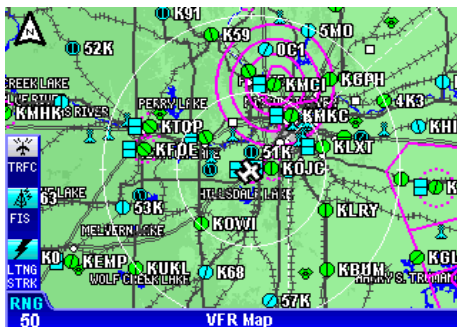

Figure 1-51
1. Press the **MENU** Key to display the DECLUTTER Softkey as shown in Figure 1-51.